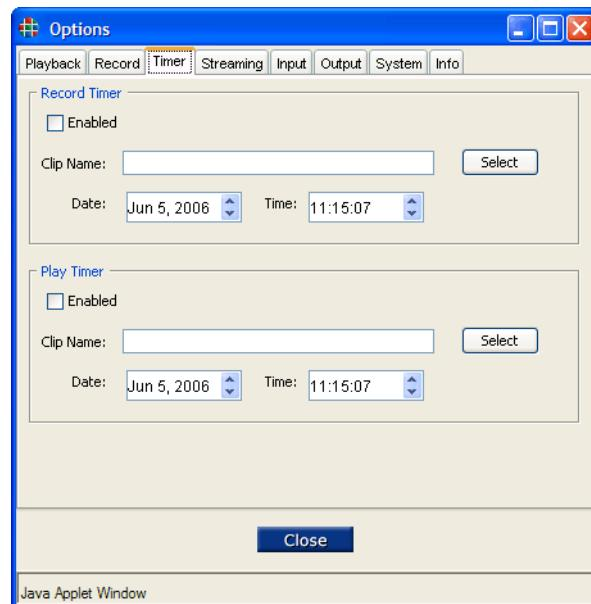

Figure 3-14. Timer Tab
- ~ Uncheck the Record Timer **Enable** check box (**Figure 3-14**)
- ~ Uncheck the Player Timer **Enable** check box (**Figure 3-14**)